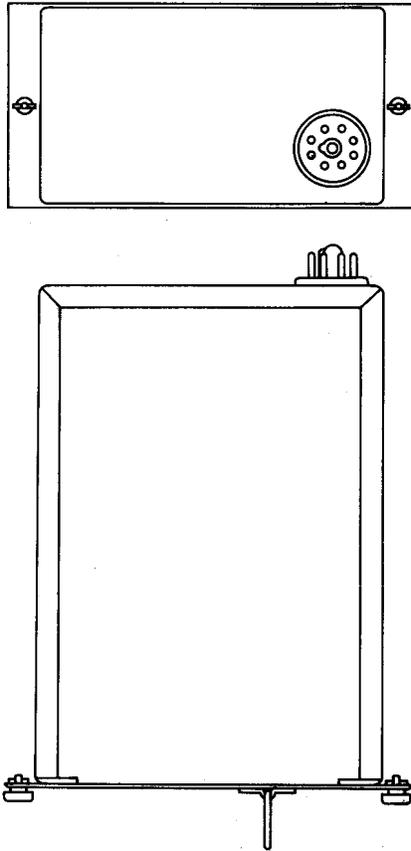

Fig. 2—426A Plug
2.02 426A: The 426A plug (Fig. 2) consists of a metal can assembled on a metal bracket. The 426A plug is equipped with a handle and two captive cam fasteners for mounting on the front, and an 86-CP8 Amphenol plug on the rear. Terminals 1, 2, 5, and 6 are strapped together. Terminals 3, 4, 7, and 8 are strapped together to the can. The 426A plug is used with the J99292A Equalizing Unit when 366- and 367-type equalizers are not required.